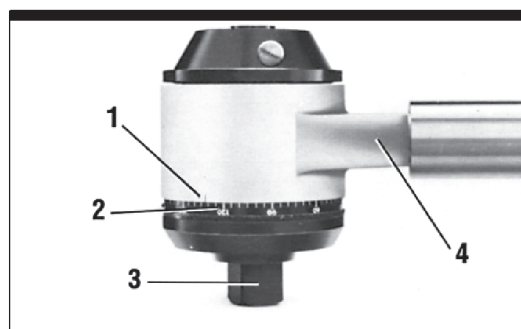

Figure 3. Angle-of-Turn Protractor Detail
2. The Torque Multiplier is equipped with an Angle-of-Turn Protractor (Fig. 3, Item 2) that measures output in degree-of-turn if torquing specifications so require.
3. A Controlled-Shear Output Square Drive (Fig. 3, Item 3) protects internal components in the event maximum output capacity is exceeded. This overload-protection feature causes the drive to fracture when output exceeds from 3% to 10% of rated output capacity. One replacement drive is included with the Torque Multiplier. Additional replacements (Part No. 393-70) can be ordered from your distributor.
1. Depress the detent pin on the Anchor Stub (Fig. 3, Item 4) and slide Reaction Anchor end over Stub until detent pin snaps into locking hole in Reaction Anchor. Test to be sure Anchor is securely locked to Stub. NOTE: The Anchor Stub may be used alone as a suitable anchor in confining areas.
4. Mount a proper size 1" square female drive socket onto the Torque Multiplier Output Square Drive (Fig. 3, Item 3), then position Socket and Multiplier on the fastener to be tightened. Remember: When socket is properly positioned on fastener, Reaction Anchor must be at right angles to the fastener to which torque is being applied.
8. **To Tighten Manually To Pre-calculated Angle-of-turn Output Specifications:** Use torque wrench to apply pre-load torque as specified by manufacturer hand-tightening is **not sufficient**. Then manually rotate Angle-of-Turn Protractor (Fig. 3, Item 2) until “0” on scale aligns with index line (Fig. 3, Item 1) scribed on case. As input is applied, protractor scale begins to rotate. Continue tightening until desired angle-of-turn reading aligns with index line. Remove Torque Multiplier from nut (Step 3.6).